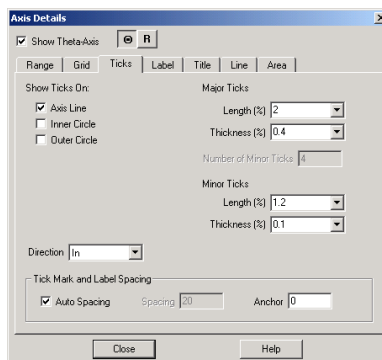

Figure 17-10. The Ticks page of the Axis Details dialog.
1. From the Plot menu, choose Axis. The Axis Details dialog appears. Select the Ticks page, as shown in Figure 17-10.